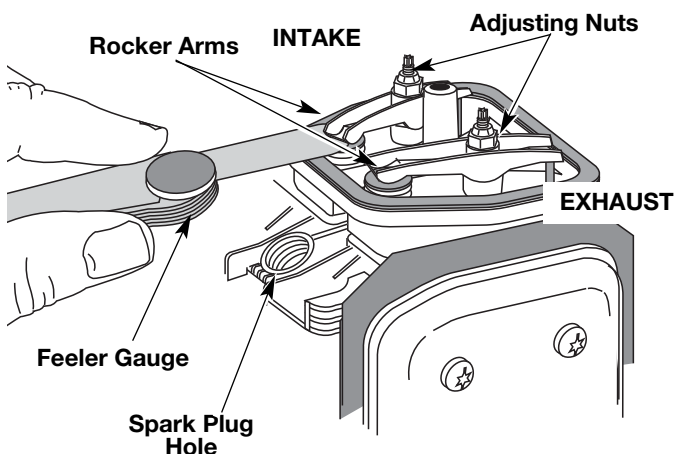

Fig. 32
- The piston is at the top of its travel. Look in the spark plug hole to view the piston (Fig. 32).
The recommended clearance for both intake and exhaust is .003 – .006 in. (.076 – 0.152 mm). Use a standard automotive .005 in. (0.127 mm) feeler gauge. The feeler gauge should slide between the rocker arm and valve stem with a slight amount of resistance, without binding. See Figures 32 and 33.